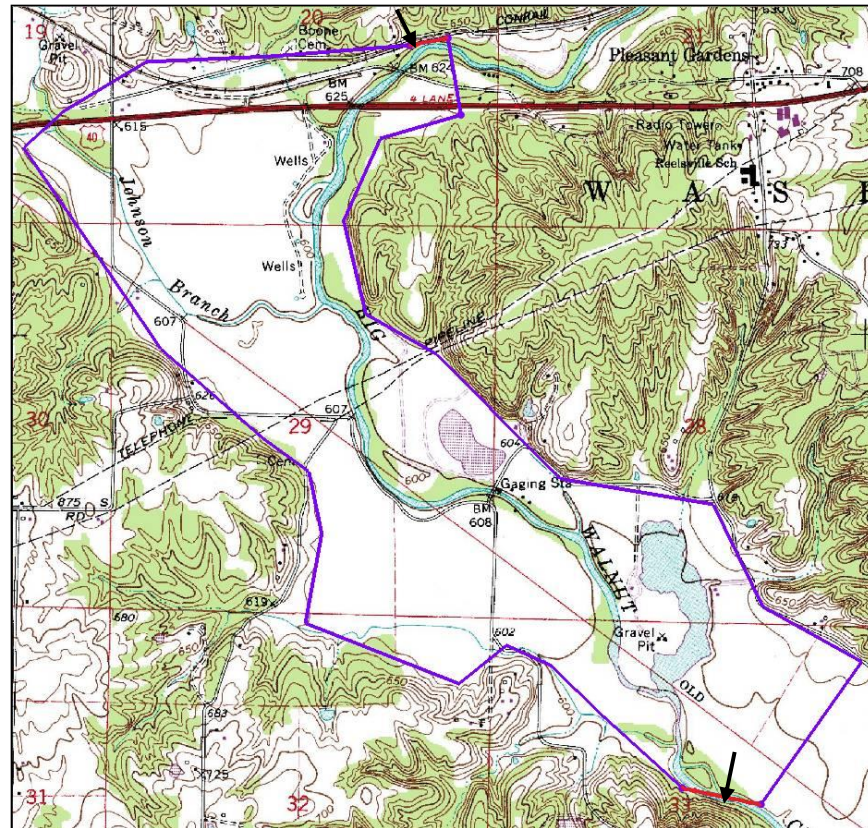

Figure 5 Specified head arcs
7. Using the **Select Arcs**  tool while pressing the *Shift* key, select the two new arcs that were created on the north and south of the boundary (Figure 5).